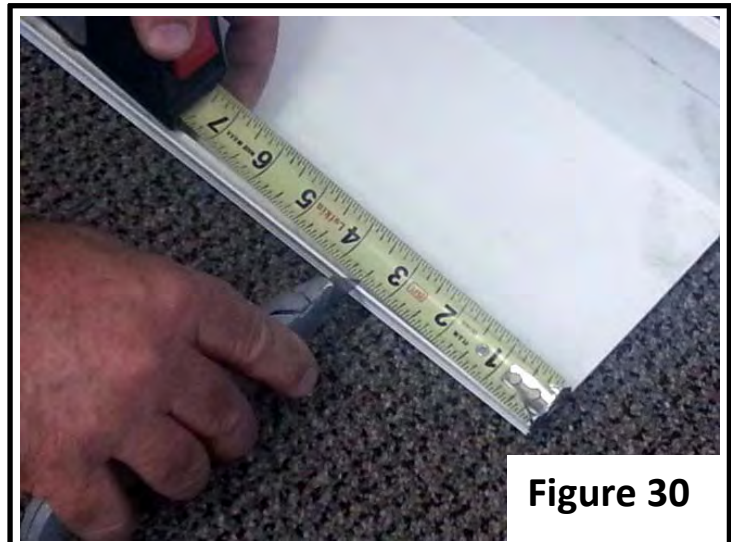

Figure 30
* Figure 30 shows removing outside snap leg.